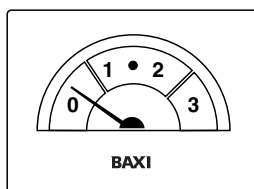

Fig. 7
4. The MINIMUM pressure for correct operation is 1 bar. If the pressure falls below this it may indicate a leak on the central heating system (Fig. 7).